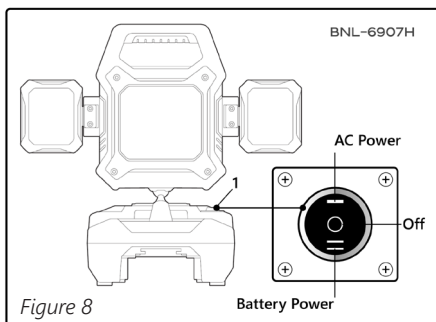

Figure 8
- The BNL-6907H has a three-position switch that sets the light to turn ON using AC Power, turn ON using Battery power, and turn to the OFF position. (Figure 8)